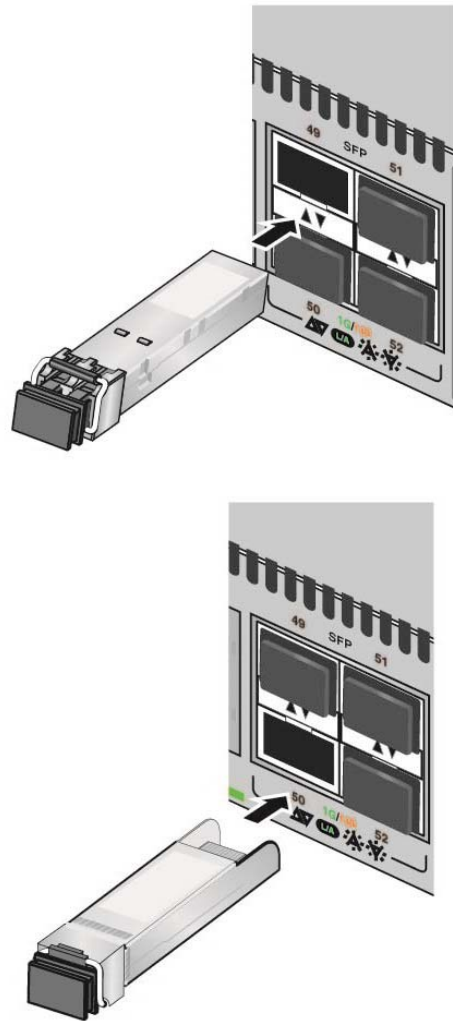

Figure 31. Installing an SFP Transceiver
4. If you are installing the transceiver in a top port, position the transceiver with the Allied Telesis label facing up. If you are installing the transceiver in a bottom port, position the transceiver with the label facing down. Refer to Figure 31 on page 73.